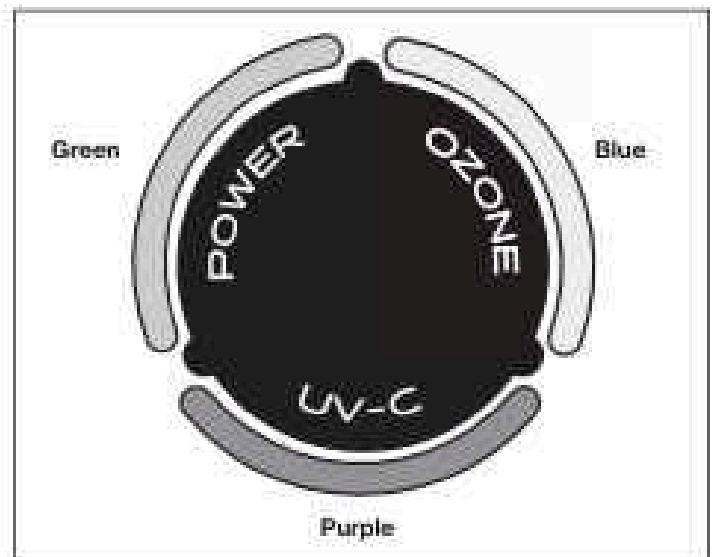
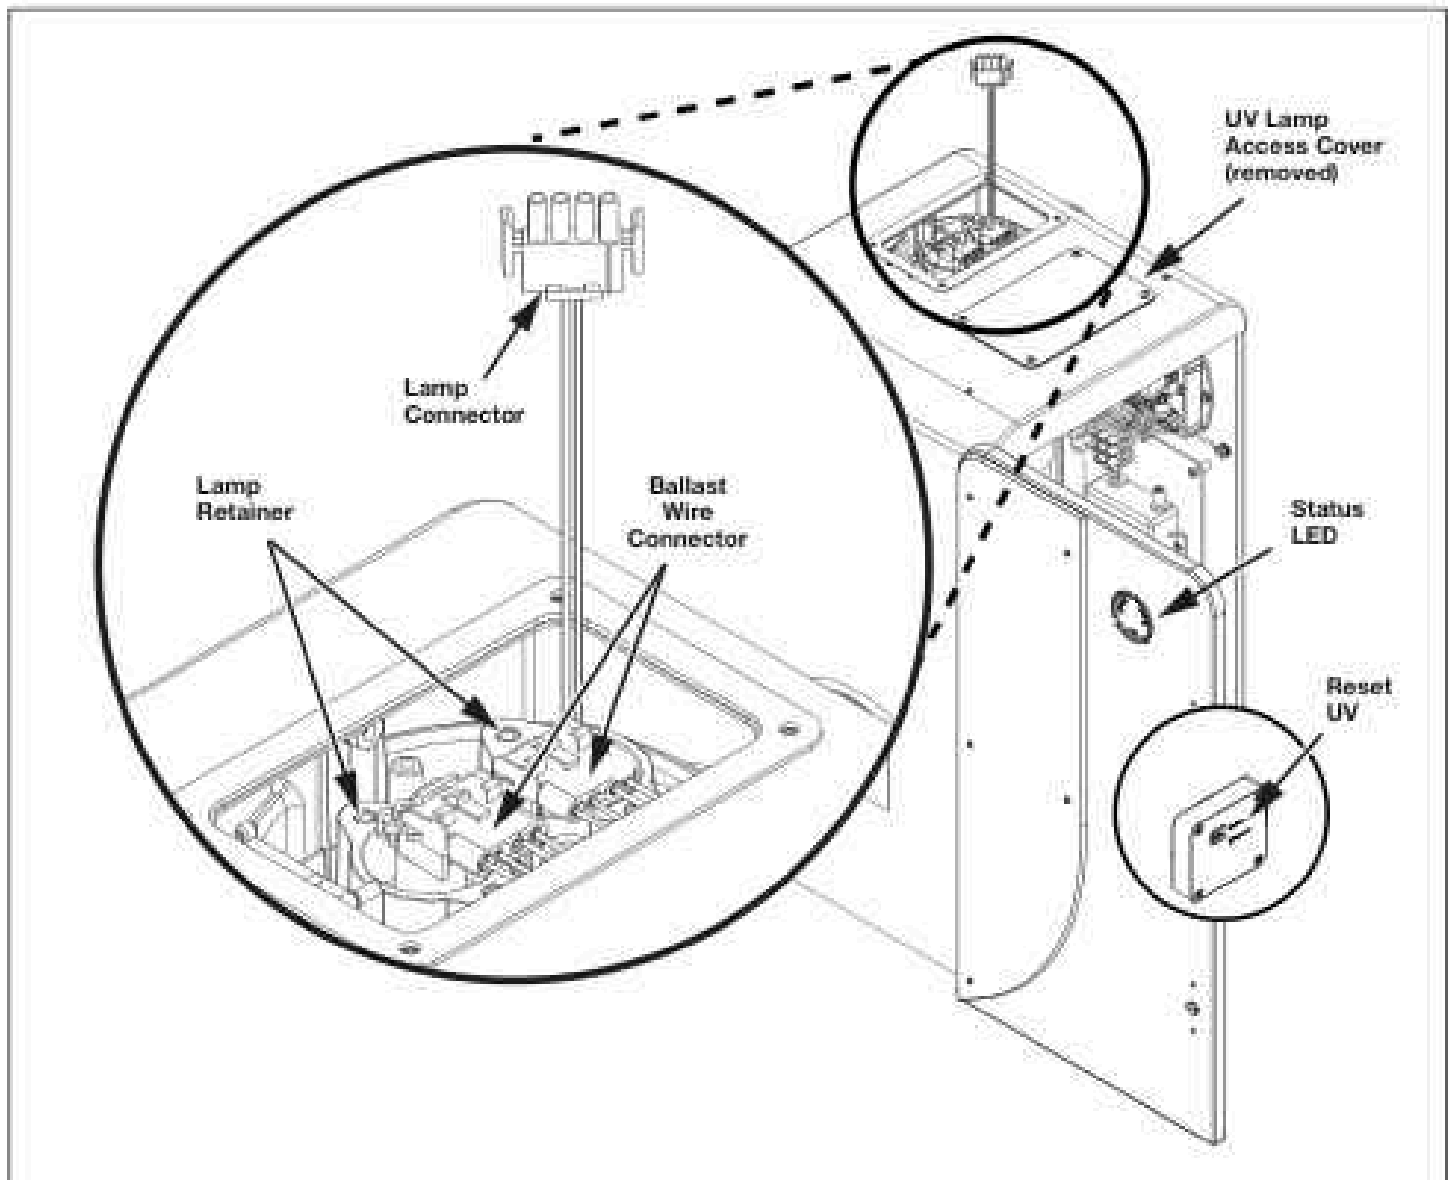

Figure 8. Status LED Indications at Normal Operation
Figure 14. UV Lamp Replacement
The Jandy AOP has indicator lights (Figure 8) to indicate its working condition. The lights should display the correct colors after the pump has reached steady flow (see section 2.2.4 *Recommended Flow Rates*). During normal operation, refer to Table 1 below for status information.
There are two lamps in each Jandy AOP unit. The purple UV-C light on system Status LEDs indicates UV lamps are operating properly (see Figure 8). If the UV lamp access panel is removed while the unit is running, the unit will be shut down automatically (see Figure 14). The lamps are each housed in a quartz tube that protects the lamp.
2. Use a Phillips-head screwdriver to remove the four (4) screws holding the access cover. See Figure 14.
4. Disconnect the lamp connectors from the ballast wire connectors. Then grasp the UV lamp wires and gently pull until the top of the UV lamp has pulled past the lamp retainer tabs. See Figure 14.
9. Reset UV-C indicator by pressing the Reset UV button on the inside door behind the Status indicators. See Figure 14 inset.
10. Secure the UV lamp access panel using the four (4) screws once the system is operational.
2. Locate the UV lamp access panel on the top of the Jandy AOP. Remove the four (4) screws with a Phillips head screwdriver, and remove the panel. See Figure 14.